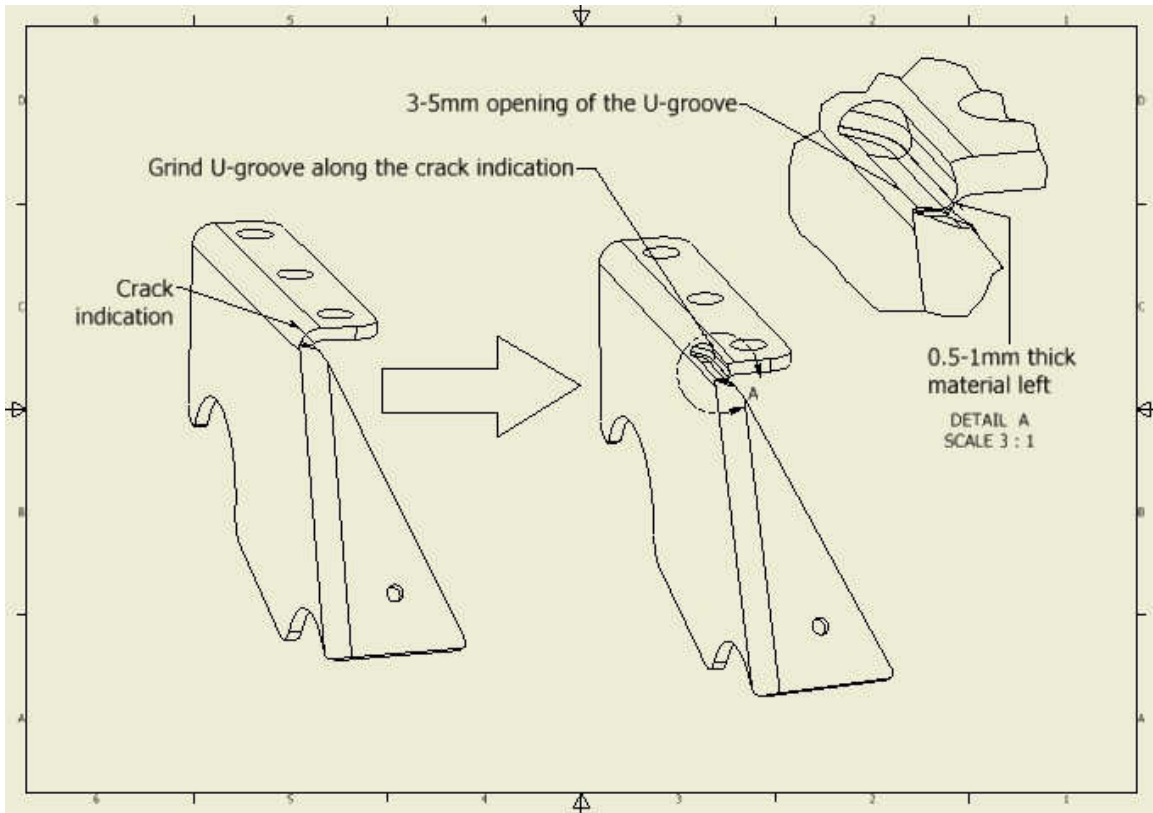

Figure 13. U-groove preparation for welding
2. Grind a U-groove along the crack as shown in Figure 13 for both LH and RH trunion plate.